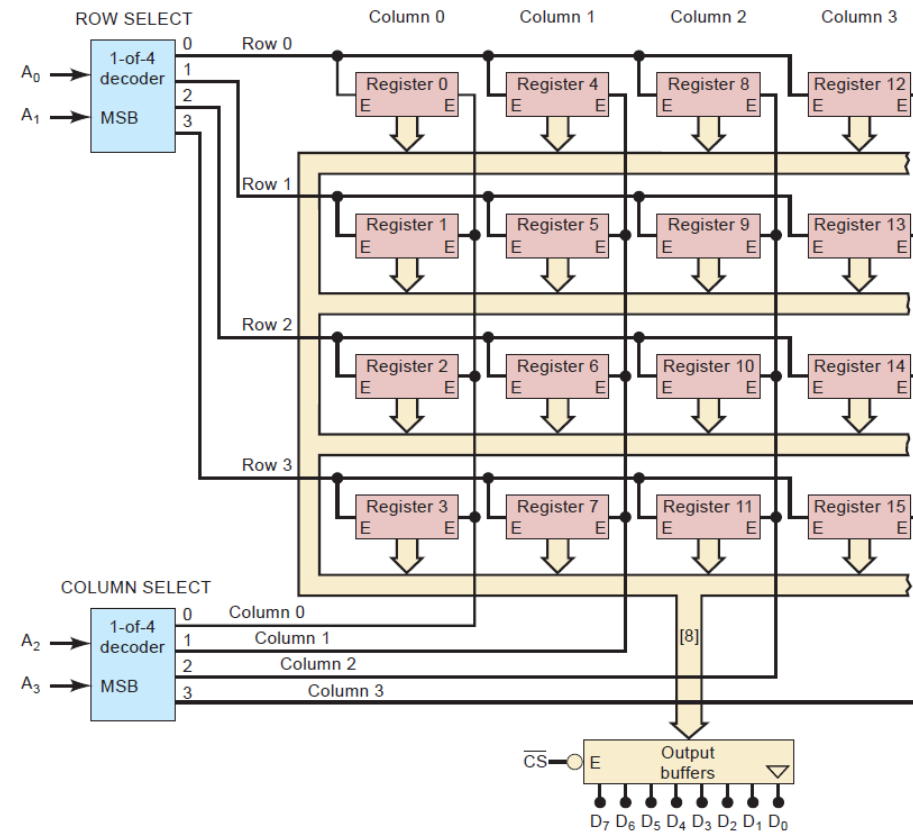

Fig. 2.1: Architecture of a 16×8 ROM. Each register stores one eight-bit word.
- ❖ What input address code is required if we want to read the data from **register 9 in Figure 2.1**?